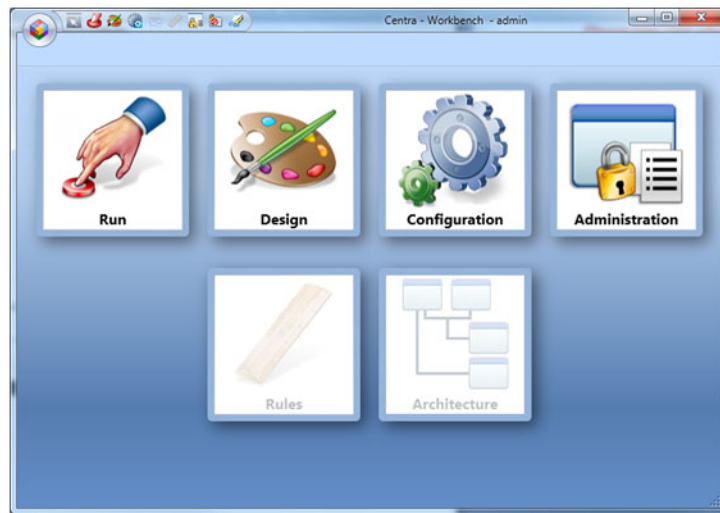
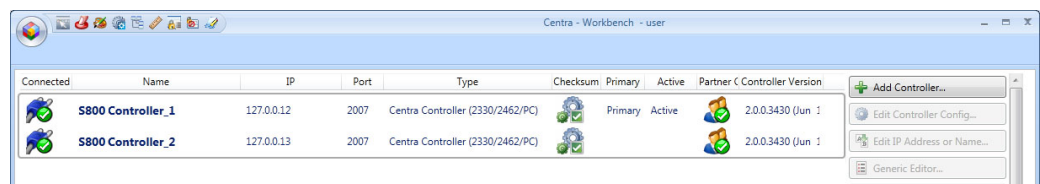

Figure 59 Workbench
Figure 60 Workbench Controller Screen
11. Click on the Configuration button (green and grey gears, see Figure 59) to open the Controller Configuration screen shown in Figure 60
12. Check that the Nucleus controllers are connected to Workbench and are running correctly. The example in Figure 60 shows a dual controller system.